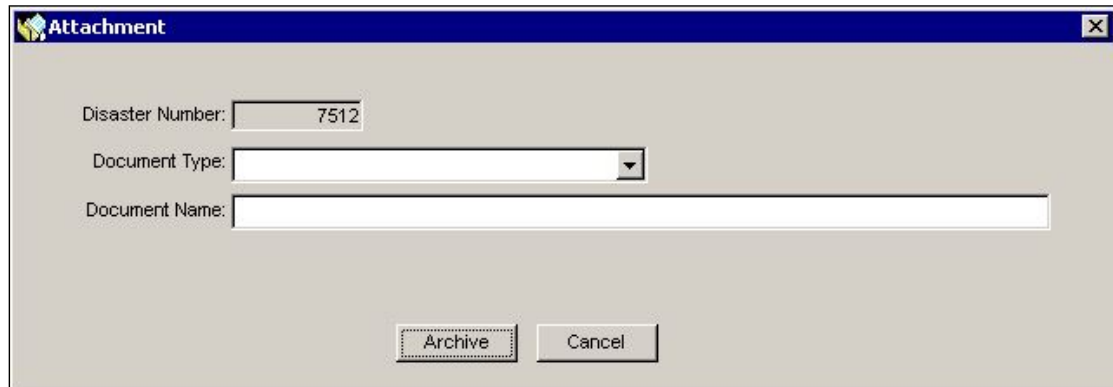

Figure 11-4: Attach a Document Dialog Box
3. On the bottom left part of the screen, click the ATTACH button. The Attachment dialog box is displayed (Figure 11-4).